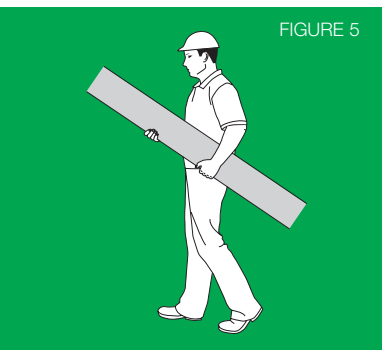

FIGURE 5
- If only one person is carrying the product, hold it in the middle and spread arms apart to better support the product (figure 5)